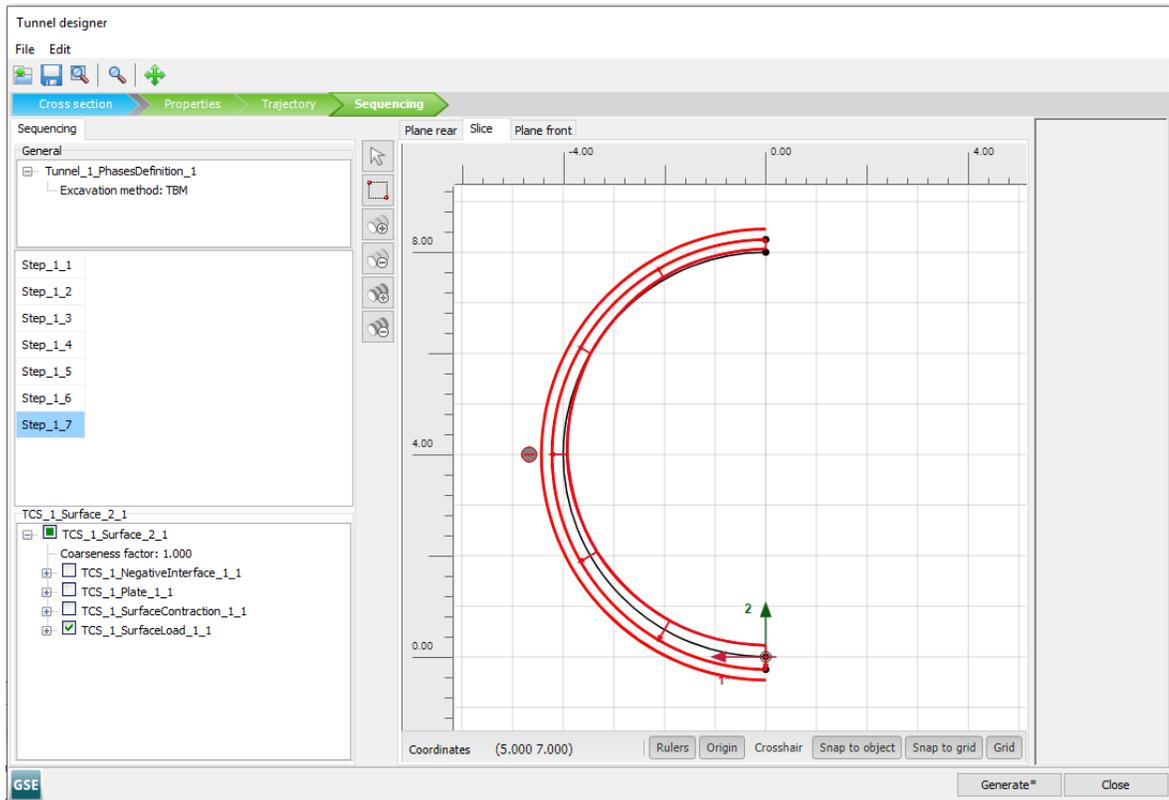

Figure 82: Slice tabsheet in the **Tunnel designer** Step_1_7
- In the **Selection explorer**, activate the surface load corresponding to the grout pressure (Figure 82 (on page 109)).